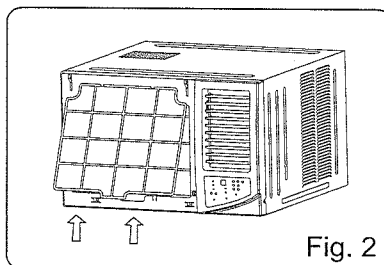

Fig. 2
2. Pinch the handle under the air filter and make the air filter arched, remove it from the slot from underside to upside (See Fig.2).
- Install the air filter into the frame's slot from upside to underside (See Fig.2).